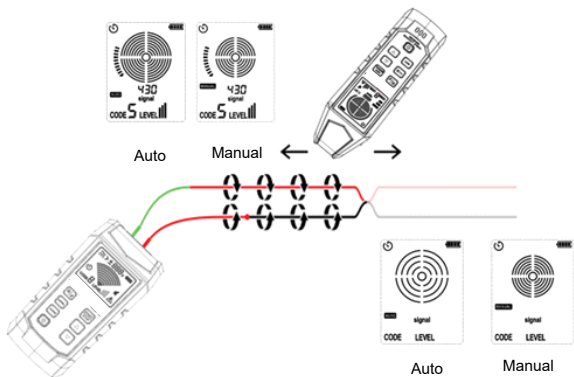

Figure 11.3.1a Identify shorts by tracking cable
1. Connect the test lead of the transmitter to the circuit, as shown in Figure 11.3.1a.